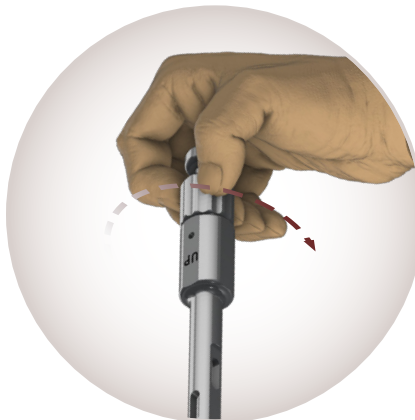

Figure 48.
Loosen the introducer tip from the implant by rotating the proximal knob of the Introducer three (3) counterclockwise revolutions (**Figure 48**).